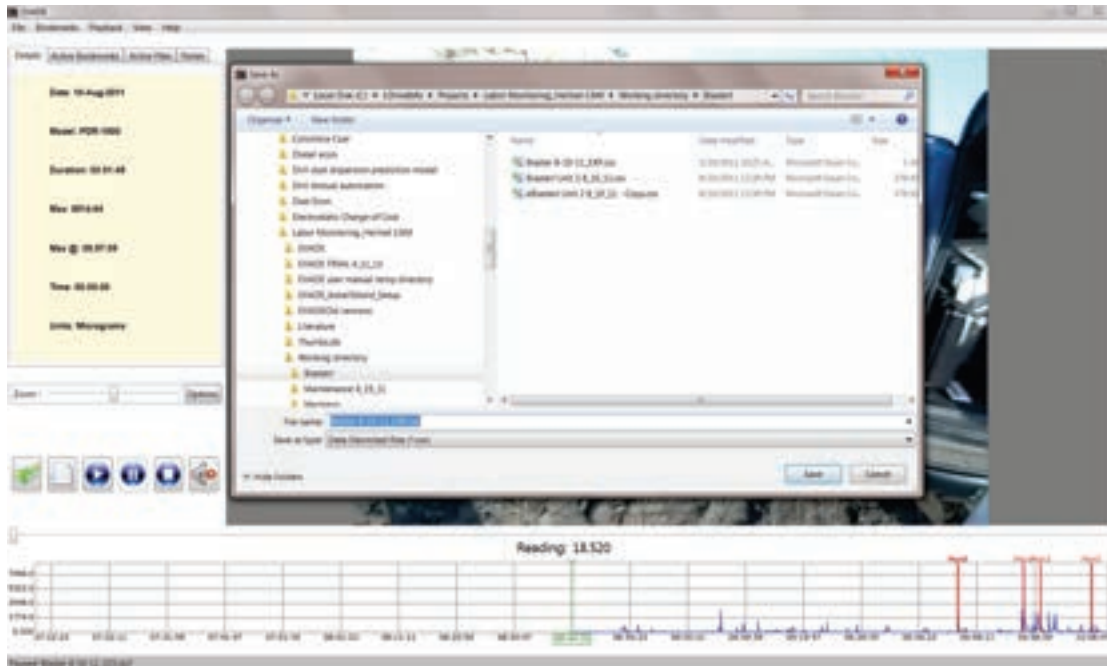

Figure 31. The Save as dialog box for saving the exported bookmark file. This example also shows the active bookmarks under the Active Bookmarks tab.
1. Click on the **Export Bookmarks** option from the File menu or use the Ctrl+E keystrokes to display the Save As dialog box for saving the bookmarks (Figure 31). The default filename will be the name used for the *bm*k file with the added *_EXP* after the filename, but before the *bm*k extension. You have the option to rename the file and place it in a location of your choice.